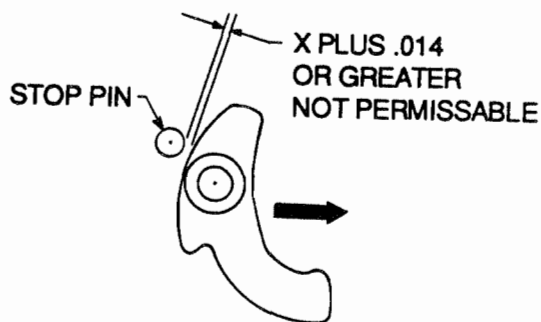

Figure 608. Flyweight To Axle Wear Check
(5) Remove the wire to relax the flyweight. Add .014 feeler gauge to your predetermined "X" value. Attempt to pass "X plus .014" feeler gauges between flyweight and stop pin. If gauges pass, remove and discard worn cam assembly. See Figure 608.